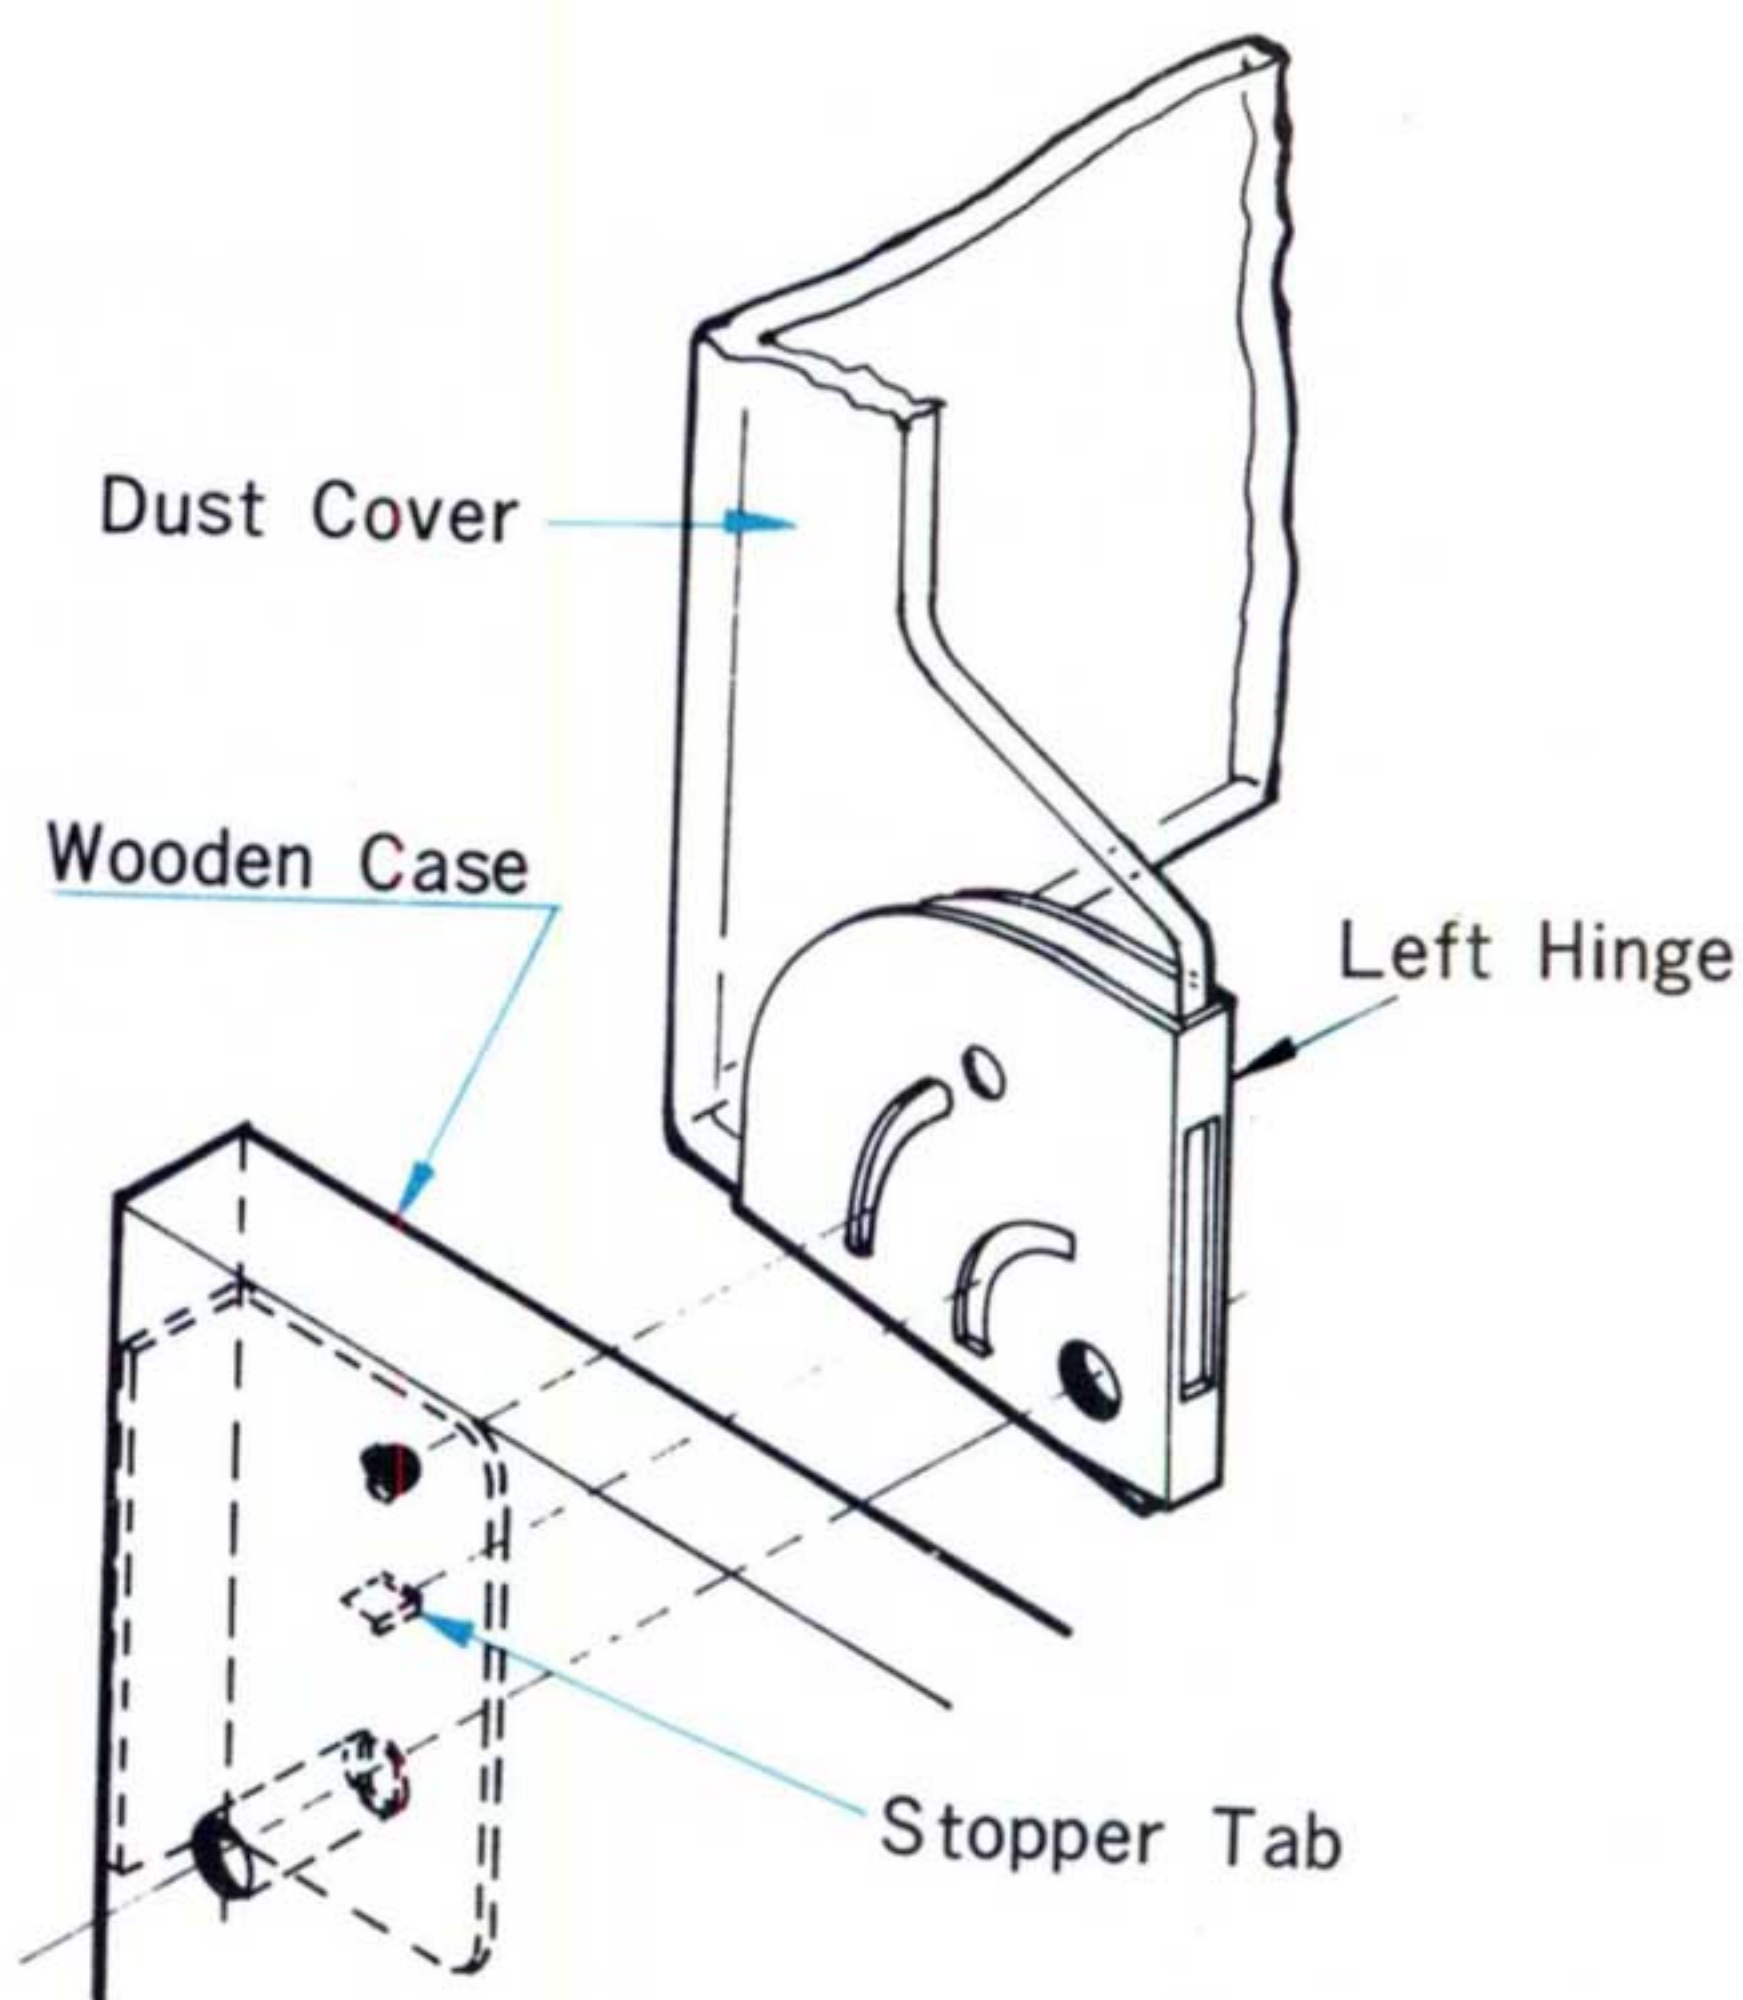

Fig. 2-2 Hinge Mechanism Details
5. To attach a new dust cover, hold the cover vertically. Move it so that the stopper tab jutting out of the left hinge mechanism engages the top portion of the slot in the dust cover. See Fig. 2-2.